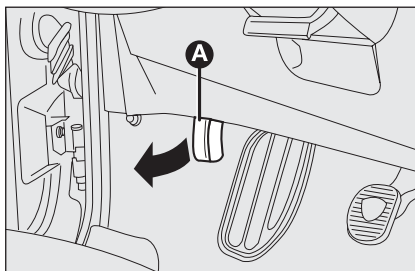

fig. 81
- ☐ pull lever **A**-**fig. 81** in the direction of the arrow;